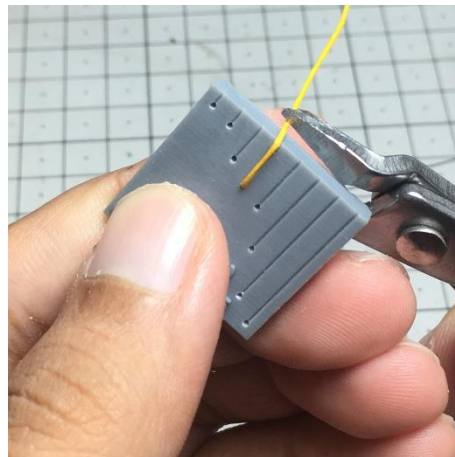

Fig 15
- We have supplied a handrail making jig in the kit (Fig 15). These are the steps to use it: